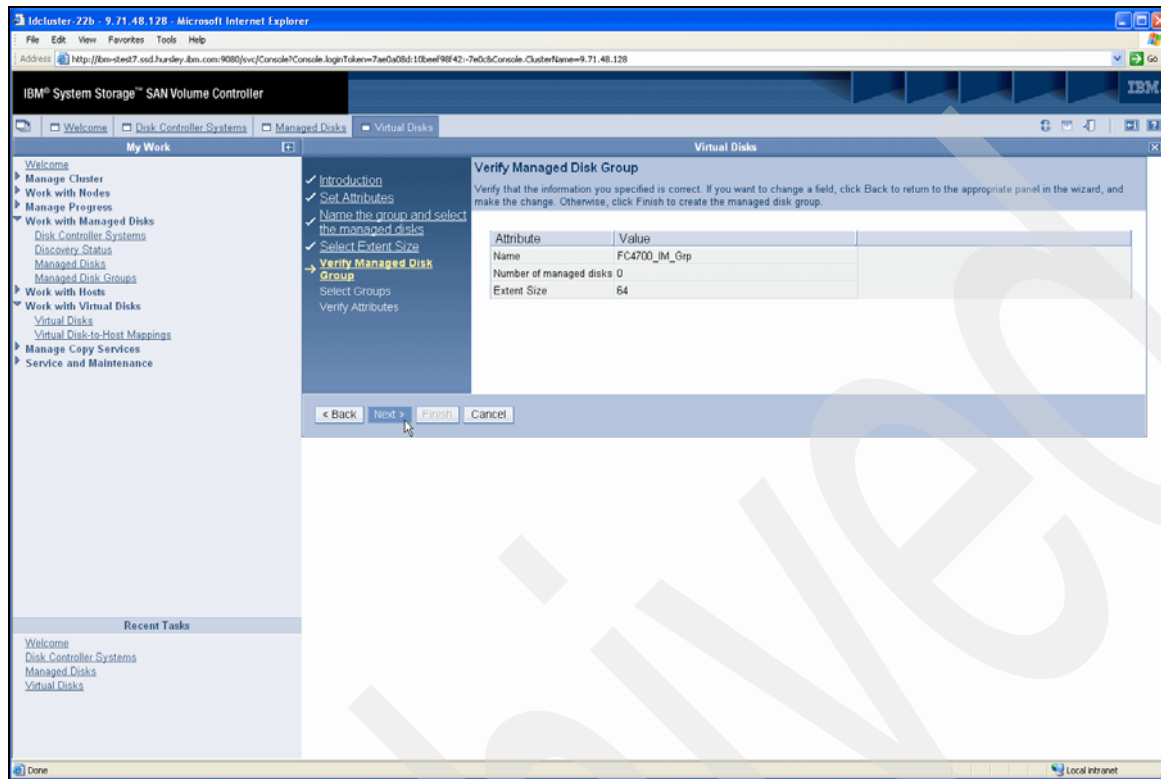

Figure 6-22 Create Image Mode VDisk verify managed disk group attributes
- On the next panel (Figure 6-22) verify the MDisk group attributes before it is created. If everything is correct, click **Next**.